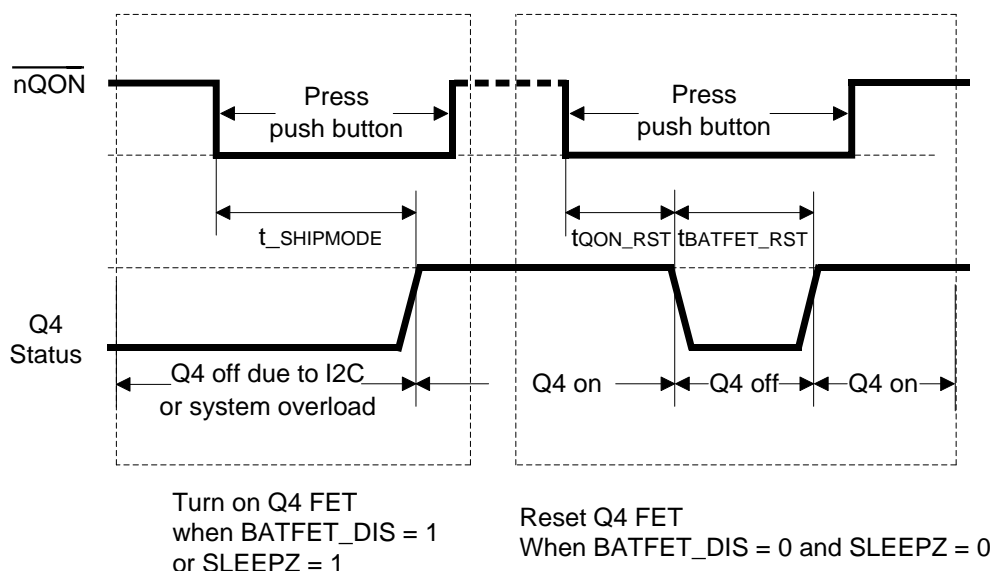
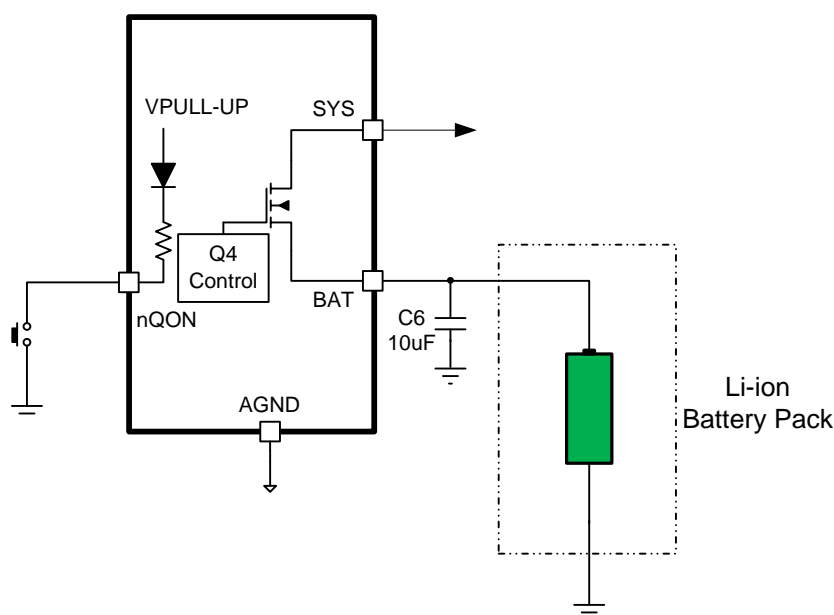

Figure 10. nQON Timing to Exit Ship Mode (Enable BATFET)
Figure 11. nQON Push Button Circuit
1. Enable BATFET: Applying an nQON logic high to low transition with longer than $t_{SHIPMODE}$ deglitch time (negative pulse) turns on BATFET to exit ship mode (Figure 10 left).
2. Reset BATFET: By applying a logic low for a duration of at least t_{QON_RST} to nQON pin while VBUS is not powered and BATFET is allowed to turn on (BATFET_DIS bit = 0), the BATFET turns off for t_{BATFET_RST} and then it is re-enabled resulting in a system power-on-reset. This function can be disabled by clearing BATFET_RST_EN bit (Figure 10 right). A typical push bottom circuit for nQON is given in Figure 11.